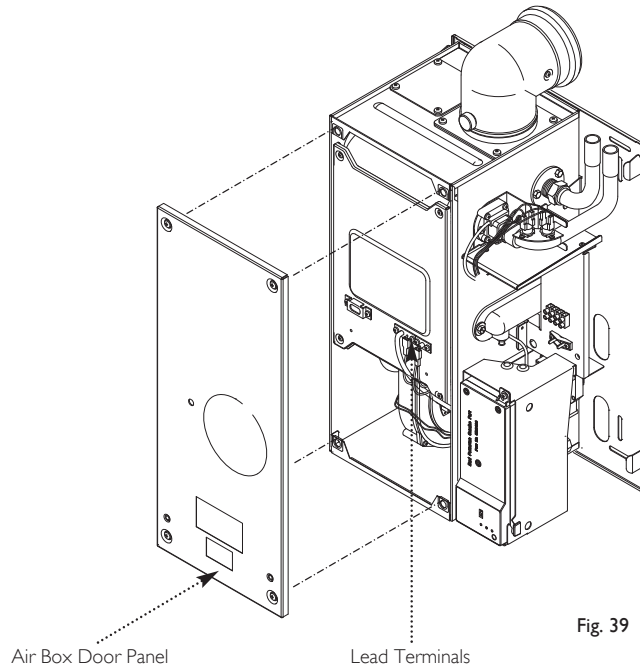

Fig. 39
7. Release the four 1/4 turn screws securing the air box door panel and remove the door (Fig. 39).